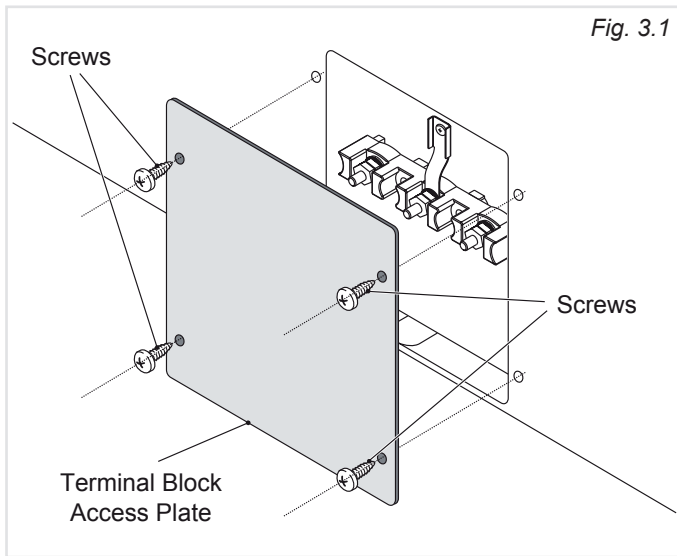

Fig. 3.1
1. Remove the **Terminal Block Access Plate** on the back of the range by unscrewing the 4 fixing **Screws** (Figure 3.1).
8. Reassemble the **Terminal Block Access Plate** on the back of the range by screwing the 4 fixing **Screws** (Figure 3.1).
9. Reassemble the **Terminal Block Access Plate** on the back of the range by screwing the 4 fixing **Screws** (Figure 3.1).